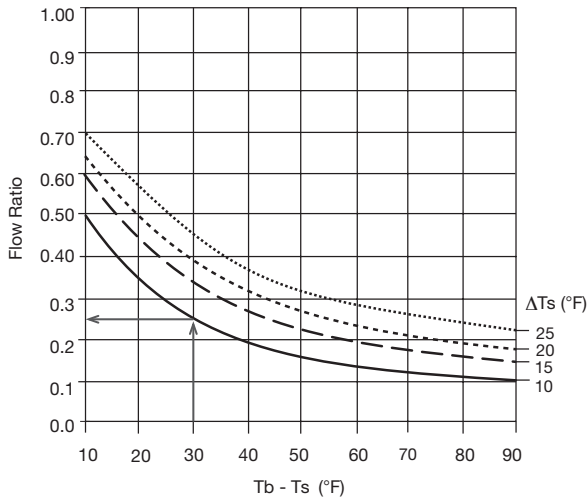

Figure 4
3. Compute Tb - Ts. Look up the ratios in Figure 4.